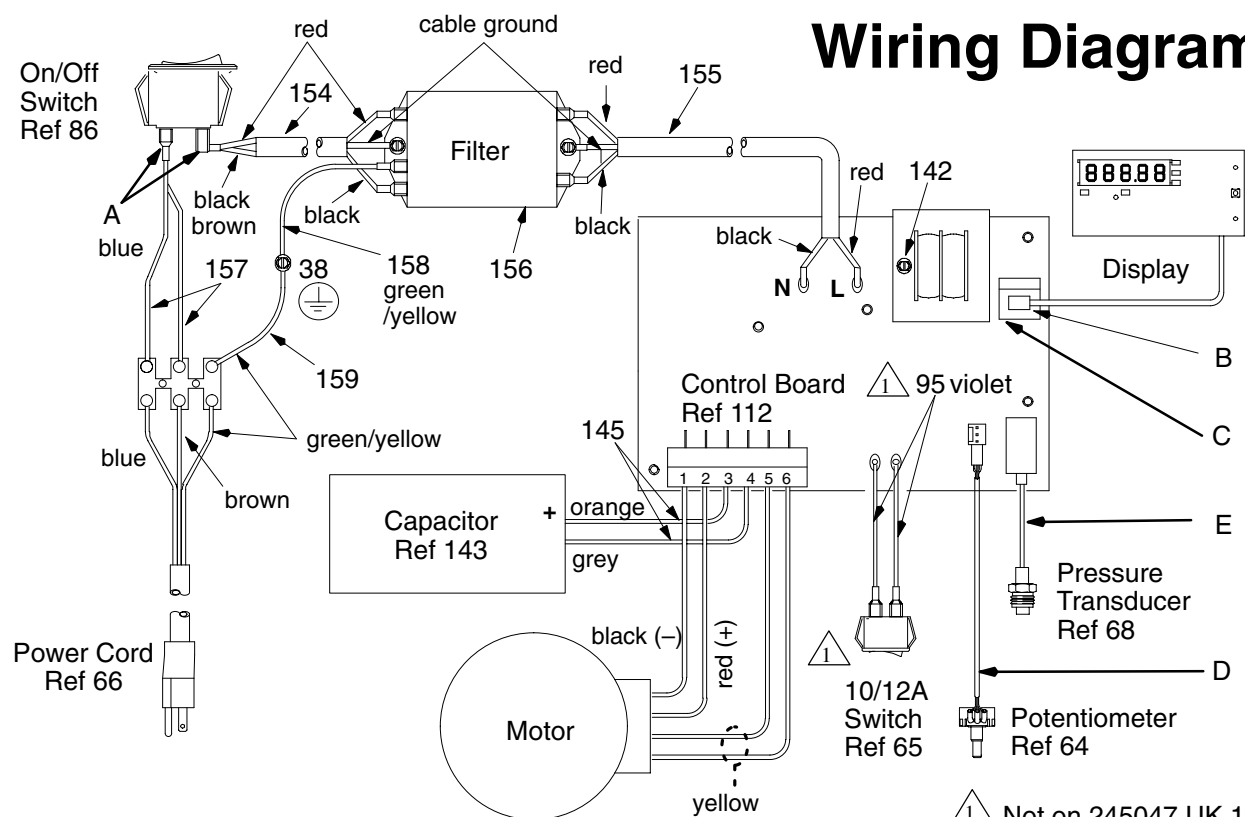

Fig. 8
3. Fig. 8. Remove four screws (60) and pressure control cover (49). Disconnect display connector (B).
4. Remove two screws (108) and control panel (67).
5. Disconnect four wires (A) at ON/OFF switch (86).
6. Squeeze inside tabs on ON/OFF switch (86) and remove from control panel (67).
7. Disconnect two wires (95) from 15/20A switch (65).
8. Squeeze inside tabs on 15/20A switch (60) and remove from control panel (67).